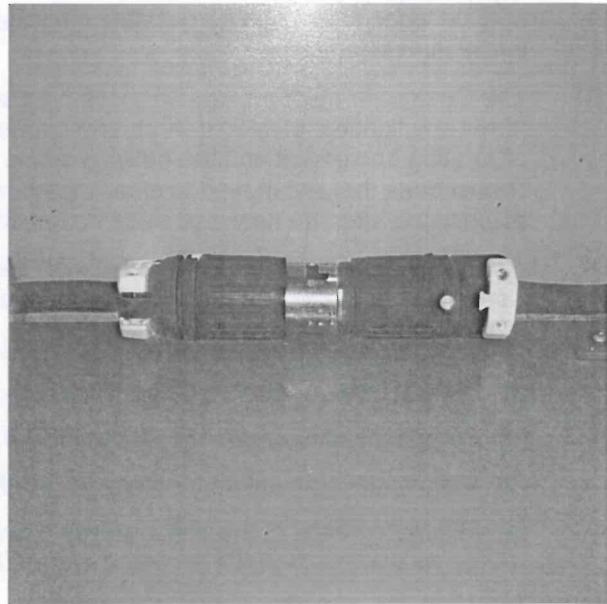

Figure 3-4
- 3.1.9.6. The existing plug connection used for the Journeyman Milling Machine, as shown in Figure 3-4, may be re-used by the Contractor for the installation of one of the new machines, if it is compatible with the power requirements of the new machine. If this plug is not used by the Contractor for the installation of the new machine at this location, then the Contractor must remove and dispose of this plug and provide a new plug that is compatible with the Contractor's machine.